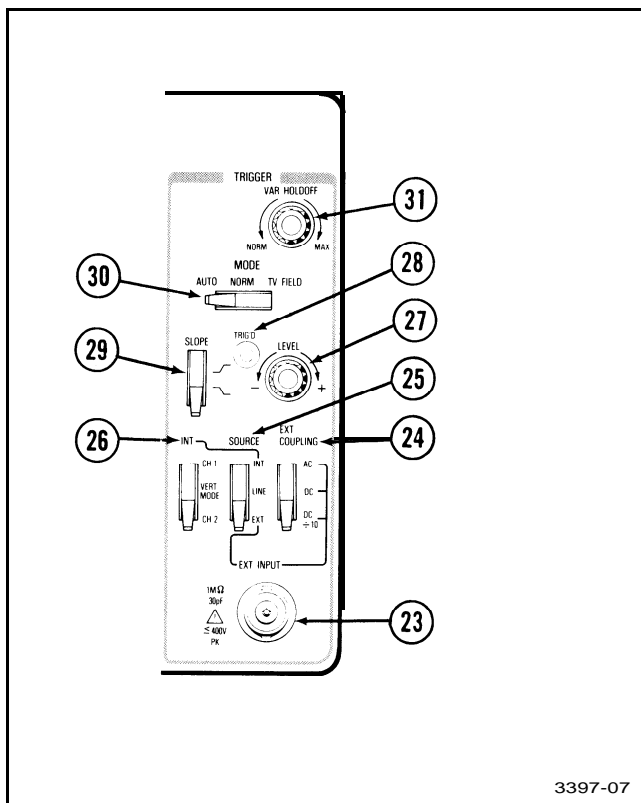

Figure 6. Trigger controls, connector, and indicator.
Refer to Figure 6 for locations of items 23 through 30.
- ③ **EXT INPUT Connector**-Provides a means of introducing external signals into the trigger generator.
- ④ **EXT COUPLING Switch**-Determines the method used to couple external signals to the Trigger circuit.